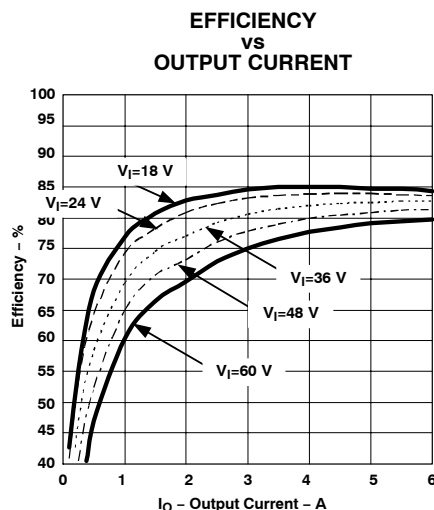
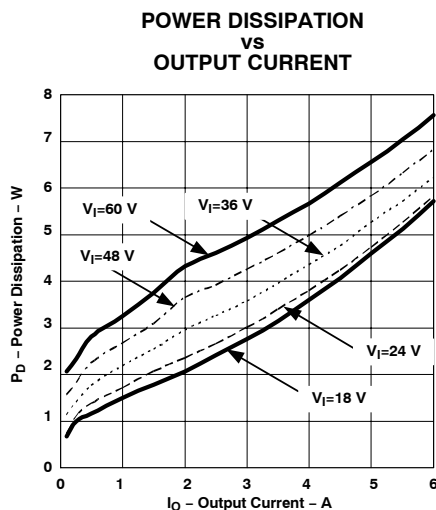

Figure 11.
Figure 12.
- (5) All data listed in Figure 11, , and Figure 12 have been developed from actual products tested at 25°C. This data is considered typical data for the dc-dc converter.